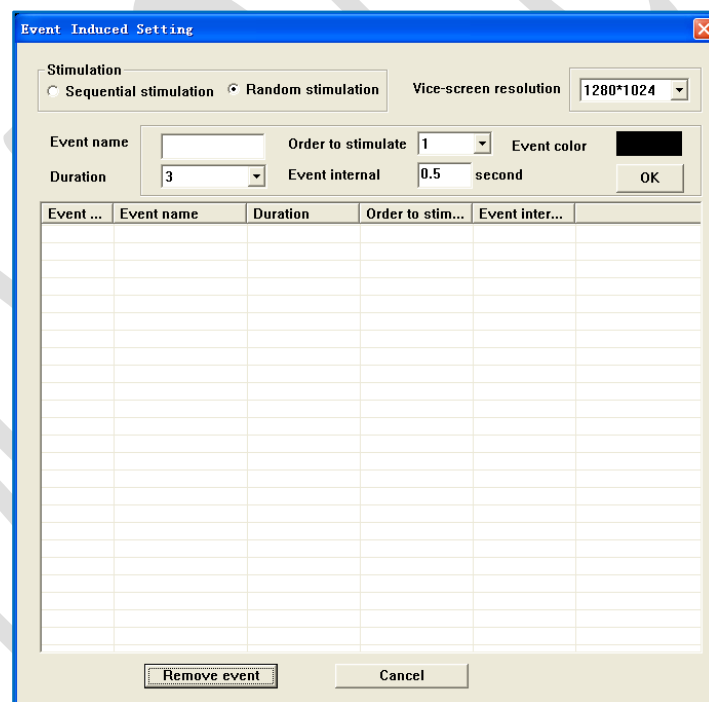

Fig. 5-6 ERP Setting
- c) Open **[ERP Setting]** under **[Settings]** to set evoked potential event parameters and stimulation modes, as well as vice-screen resolution (See Fig 5-6).